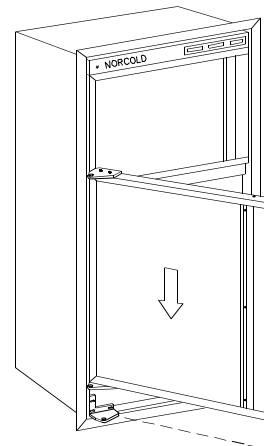

Figure 17
- Turn the door over so that the end previously at the bottom is now at the top. Relocate the bottom of the door on the bottom hinge pin shoulder. Close door and align holes in top hinge brackets. The magnetic gasket will hold the door in place. Before reinstalling the top door, check to insure that the spacer is in place. (See Figures 17 and 19C)